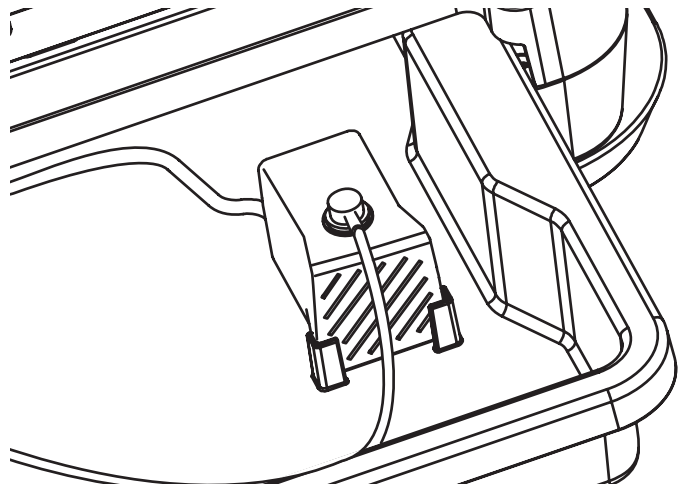

Fig. 12
2. Locate the water-pump-positioning tabs in the water tray. With the water tray in place beneath the saw, position the water pump as shown in Fig. 12. Press the water pump in place to secure it to the water tray with the attached suction cups.